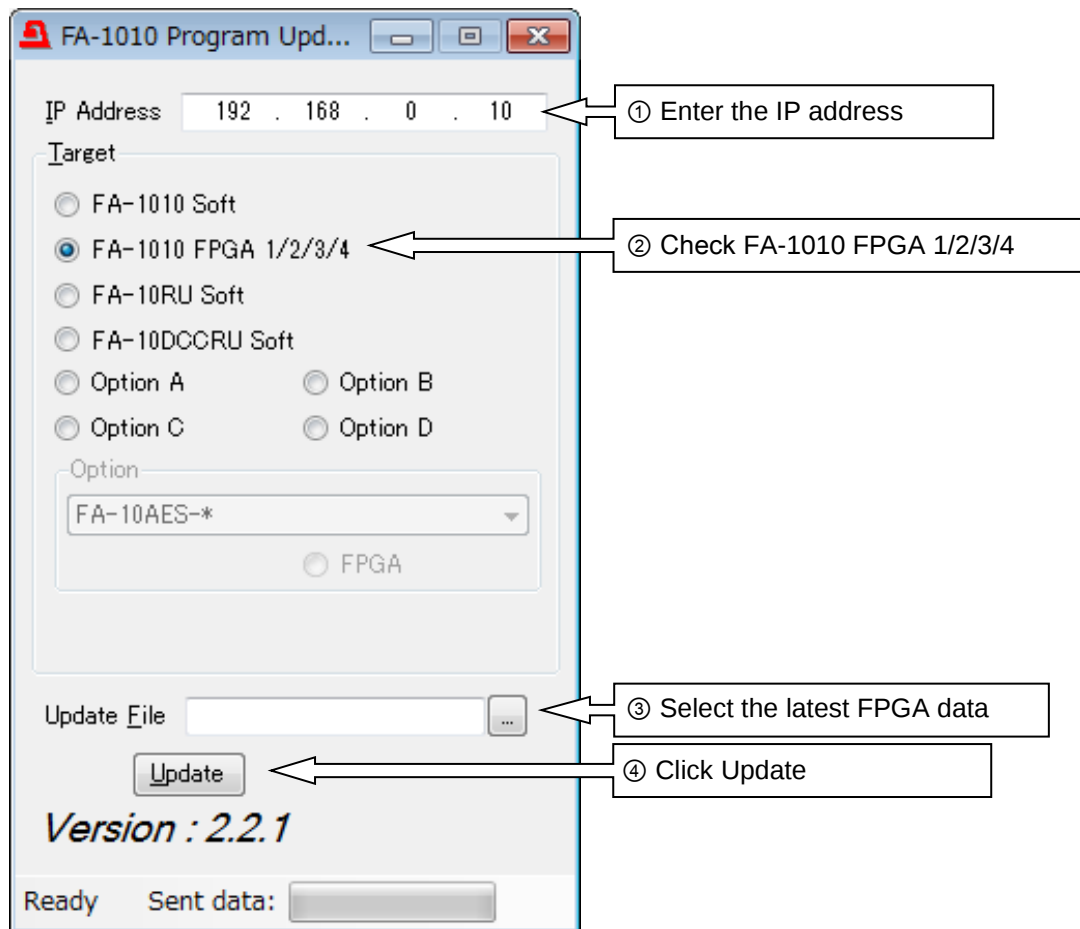

Fig. 14 FA-1010 Program Updater dialog
3. Enter the IP address. (default IP address: 192.168.0.10)(Fig. 14 ①).
4. Check **[FPGA1/2/3/4]** under **[Target]** (Fig. 14 ②).
5. Select the latest FPGA data under **[Update File]** (Fig. 14 ③).
6. Click **[Update]** to start updating (Fig. 14 ④).